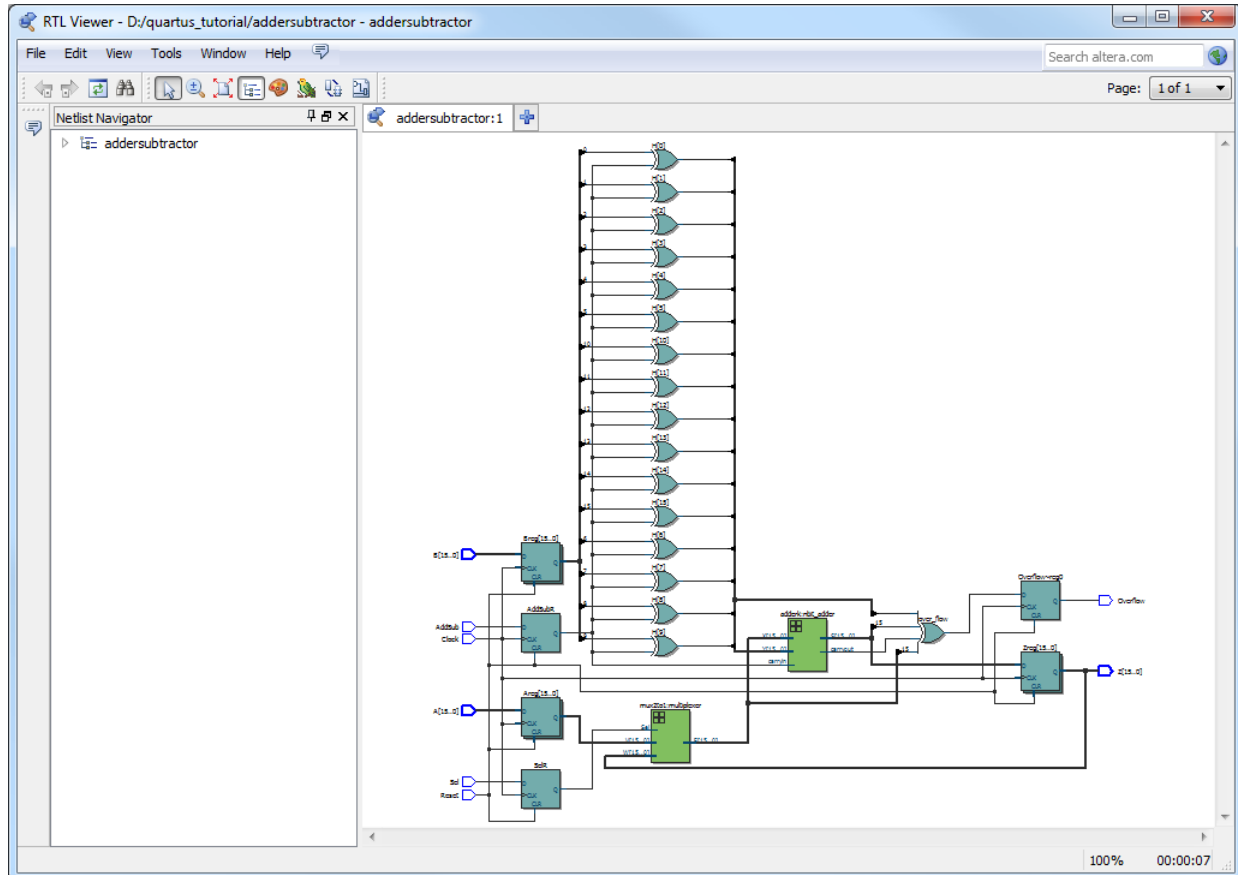

Figure 29: The *addersubtractor* circuit displayed by the RTL Viewer.
1. Click Tools > Netlist Viewers > RTL Viewer, to reach the window shown in Figure 29.